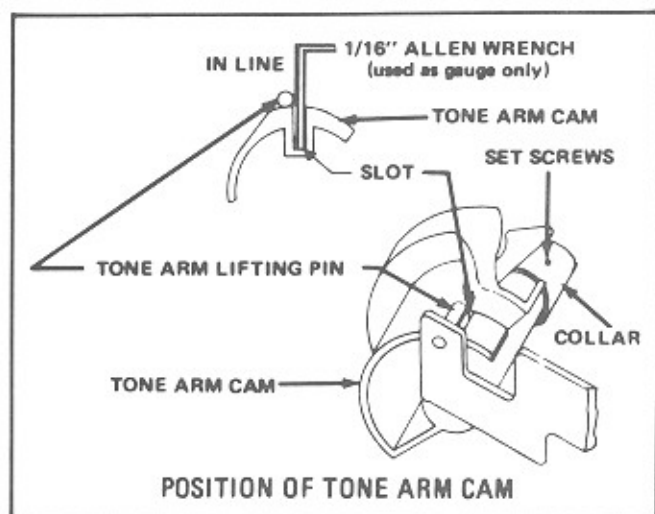

Figure 3-13. Tone Arm Position
5. Position tone arm cam so that the outside diameter of the tone arm lifting pin is in line with the edge of the slot in the cam, as shown in Figure 3-13.